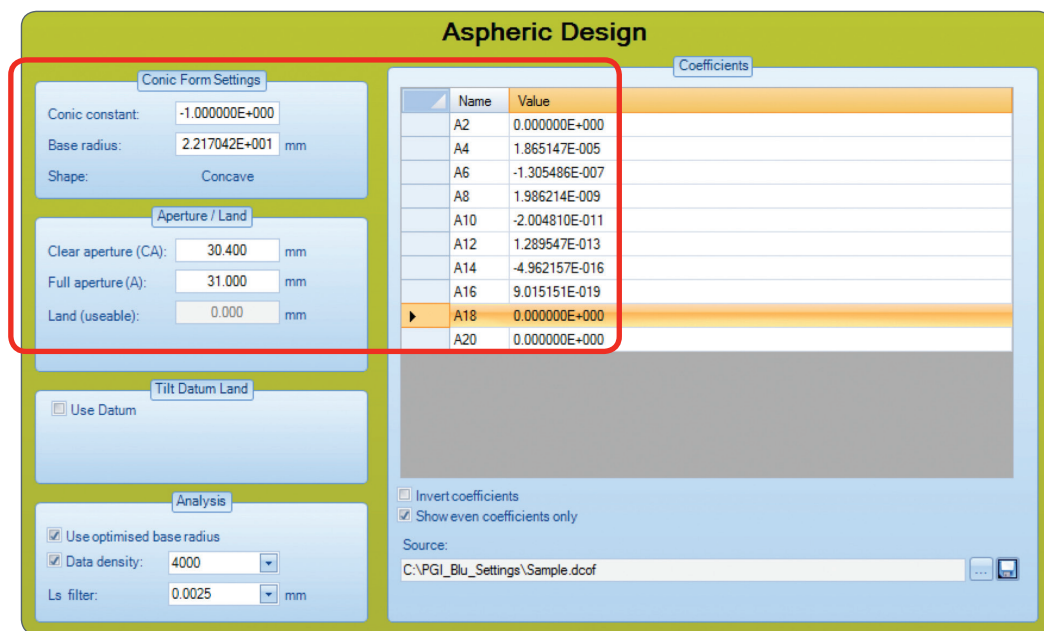

Figure 3: Enter the conic constant, base radius, clear and full aperture and coefficients
- 2 Enter sample design data (see figure 3).